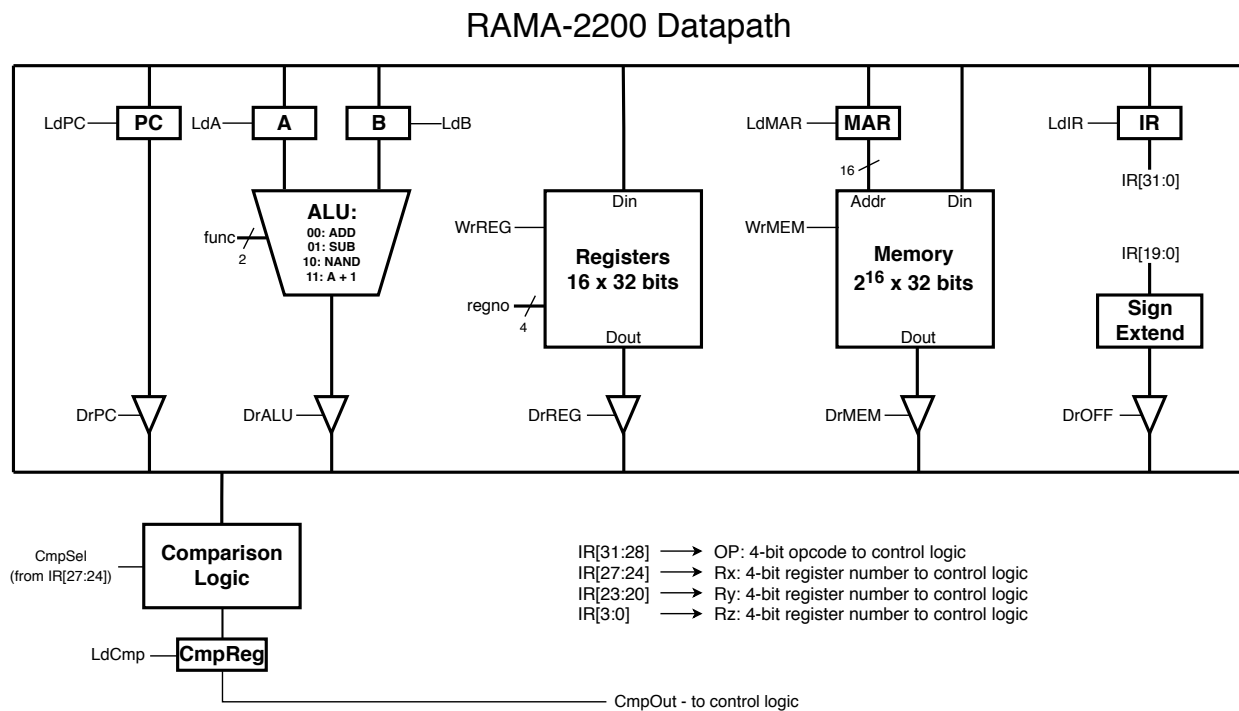

Figure 1: Datapath for the RAMA-2200 Processor
2. Using CircuitSim, implement the RAMA-2200 datapath. To do this, you will need to use the details of the RAMA-2200 datapath defined in Appendix A: RAMA-2200 Instruction Set Architecture. You should model your datapath on Figure 1.
The “comparison logic” box in Figure 1 is responsible for performing the comparison logic associated with the SKP instruction. The comparison logic should read the current value on the bus plus the mode bits from the IR. When executing SKP, you should compute $A - B$ using the ALU. While this result of the ALU is being driven on the bus, the comparison logic should read the result $A - B$ and output a single “true” or “false” bit for either the condition $A == B$ or $A < B$ depending on the mode input.
2. Implement the Microcontrol Unit using CircuitSim. The appendix contains all of the necessary information. Take note that the input and output signals on the schematics directly match the signals marked in the RAMA-2200 datapath schematic (see Figure 1).
4. Connect the completed control unit to the datapath you implemented in Phase 1. Using Figures 1 and 2, connect the control signals to their appropriate spots.